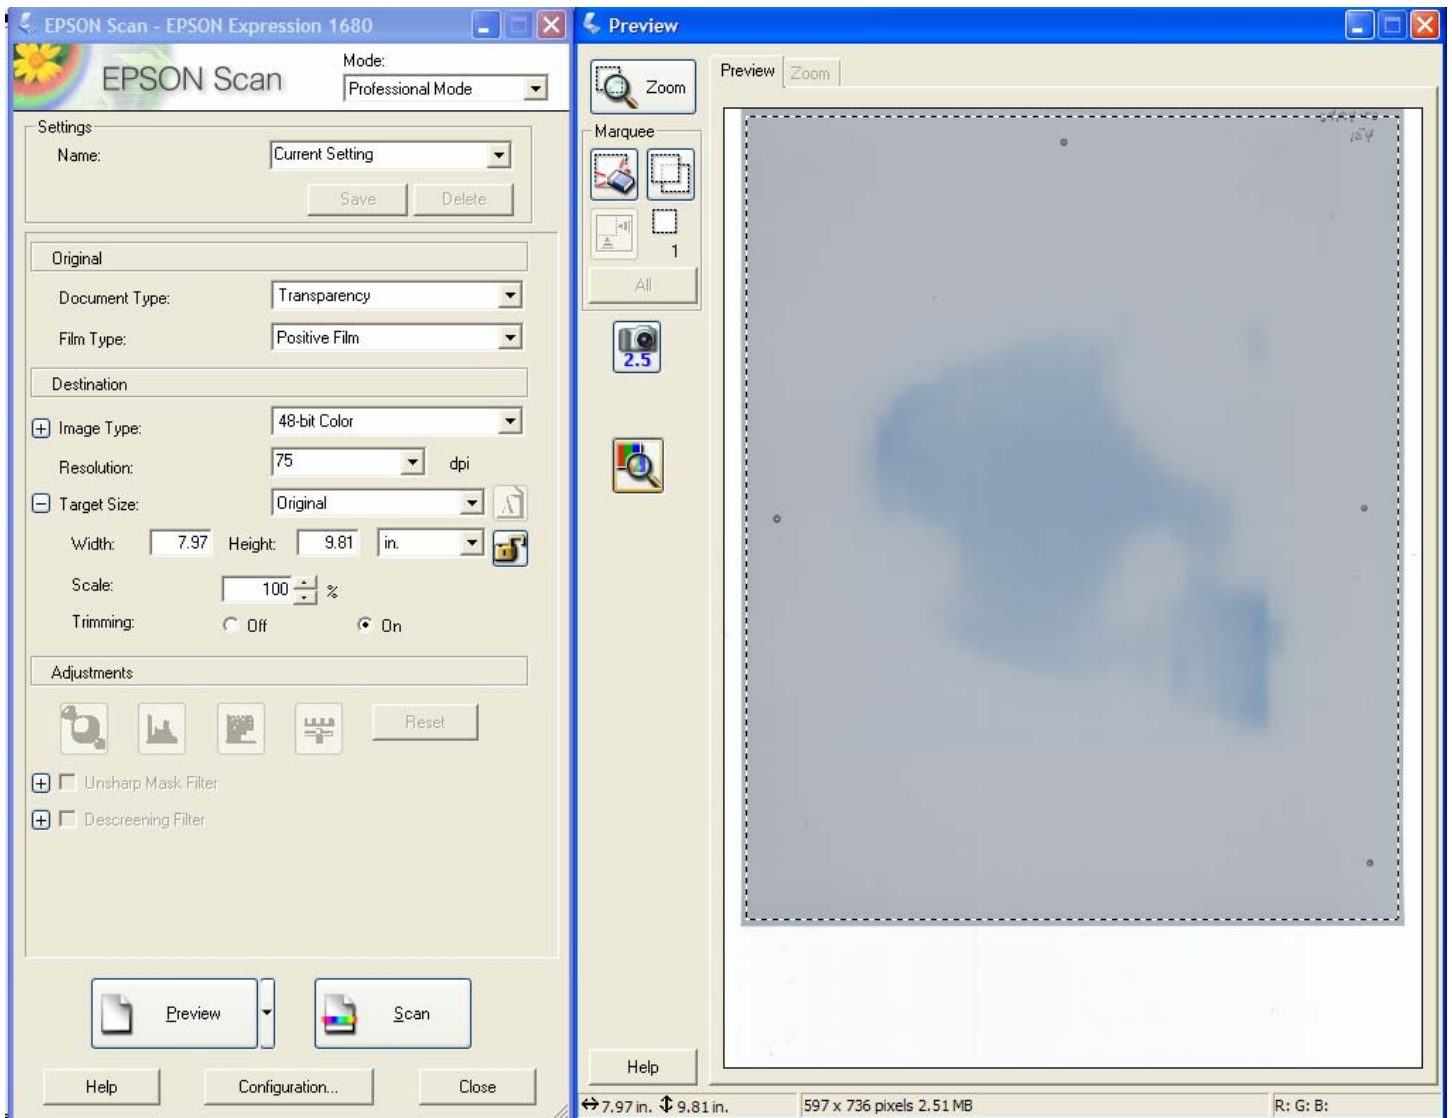

Figure 6
10. Place the cursor in the “Preview” window and draw an area of interest at the border of the film image as shown in the right hand window of Figure 6.